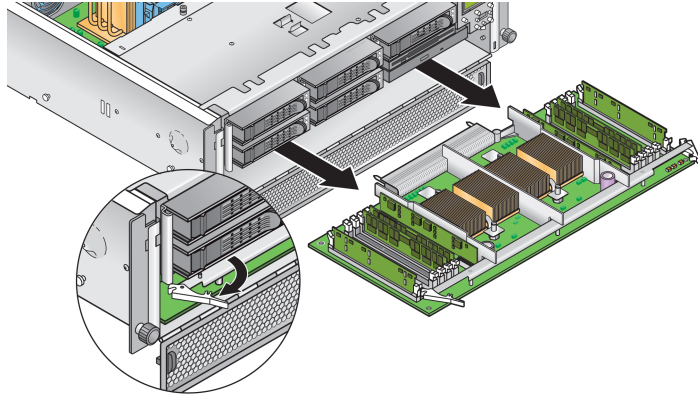

FIGURE 14 Removing the CPU Card From the Chassis
3. Open the two plastic levers on the CPU card corners *simultaneously* to release it from its backplane, then carefully pull it out of the server (see FIGURE 14).